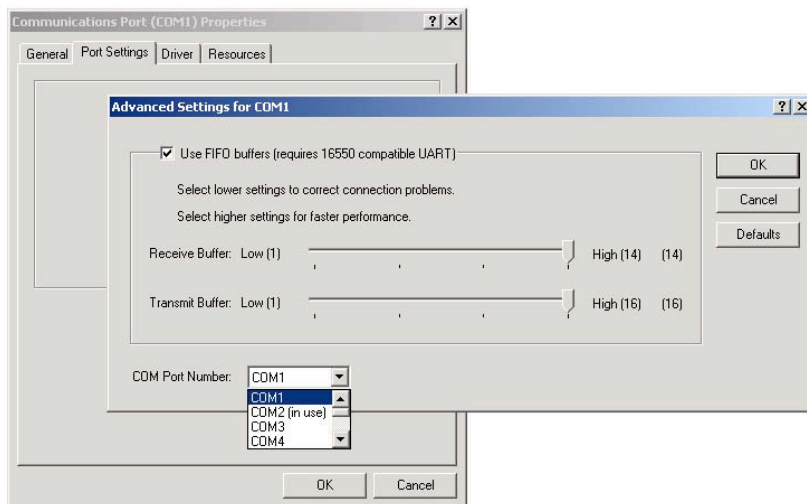

figure 4
- 2) Choose “Advanced” in “Communications Port (COM1) Properties”. Revise the “COM Port Number” in “Advanced Settings for COM1” (as showed in Figure 4).